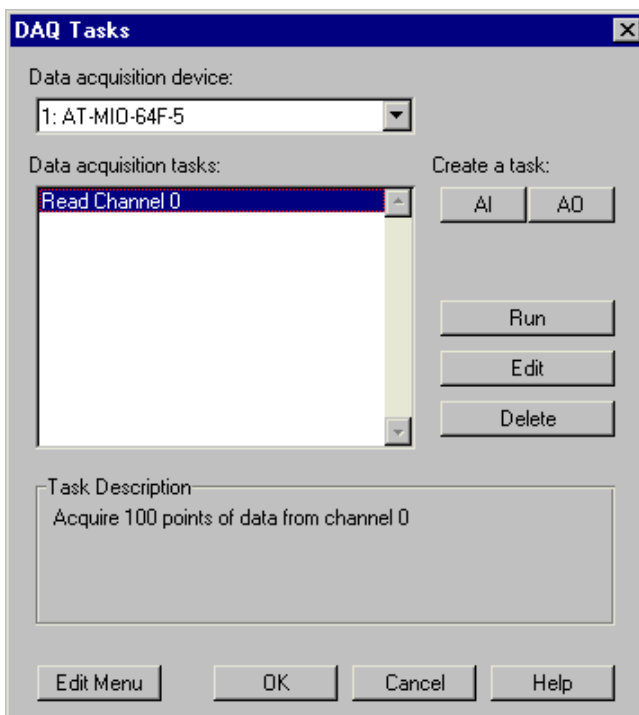

Figure 2-4. DAQ Tasks Dialog Box
- Click on the **OK** button to return to the DAQ Tasks dialog box, shown in Figure 2-4. Notice that you now have a task named `Read Channel 0` in your task list. Notice also that the description for this new task appears in the dialog box as well.